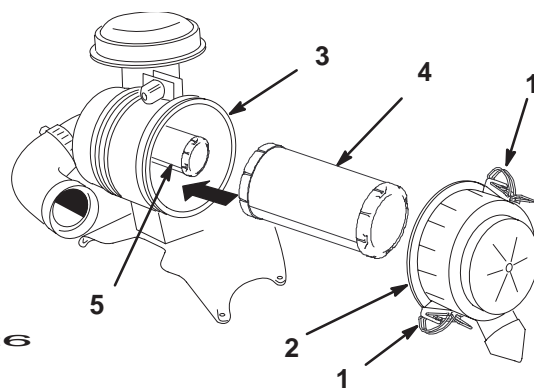

Figure 35
2. Release the latches on the air cleaner and pull the air cleaner cover off of the air cleaner body (Fig. 35).
4. Gently slide the primary filter out of the air cleaner body (Fig. 35). Avoid knocking the filter into the side of the body. Do not remove the safety filter, unless you intend to replace it as well.
2. If the safety filter is being replaced, carefully slide it into the filter body (Fig. 35).
3. Carefully slide the primary filter over the safety filter (Fig. 35). Ensure that it is fully seated by pushing on the outer rim of the filter while installing it.
4. Install the air cleaner cover with the side indicated as UP facing up and secure the latches (Fig. 35).